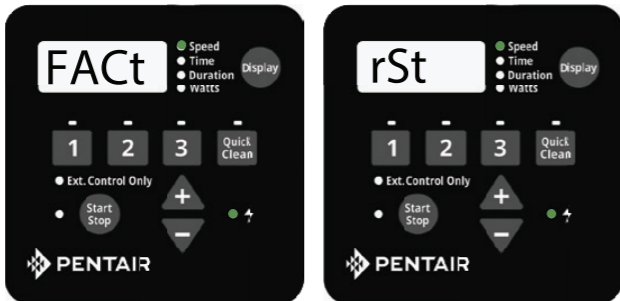

Figure 9: Drive Factory Reset
4. The screen will display “FACT rSt” if factory reset is successful. See **Figure 9**.